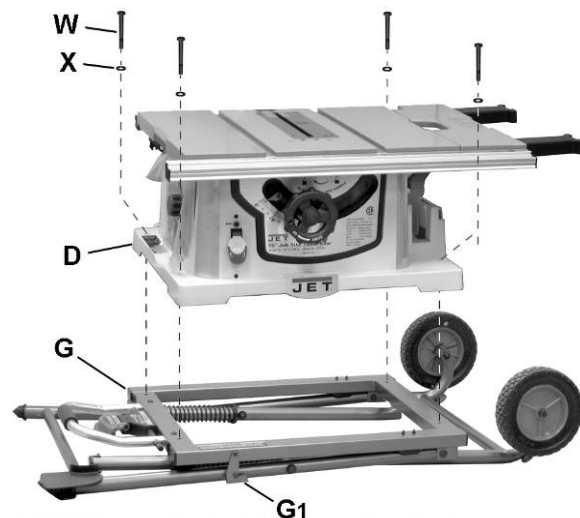

Figure 7
**⚠WARNING** Stand may pop up unexpectedly without weight of saw on stand. In order to avoid injury, verify that the lock hook (G1, Fig. 7) located at the front of the stand is locked onto the stop screw before mounting the table saw.
Referring to Figure 7: